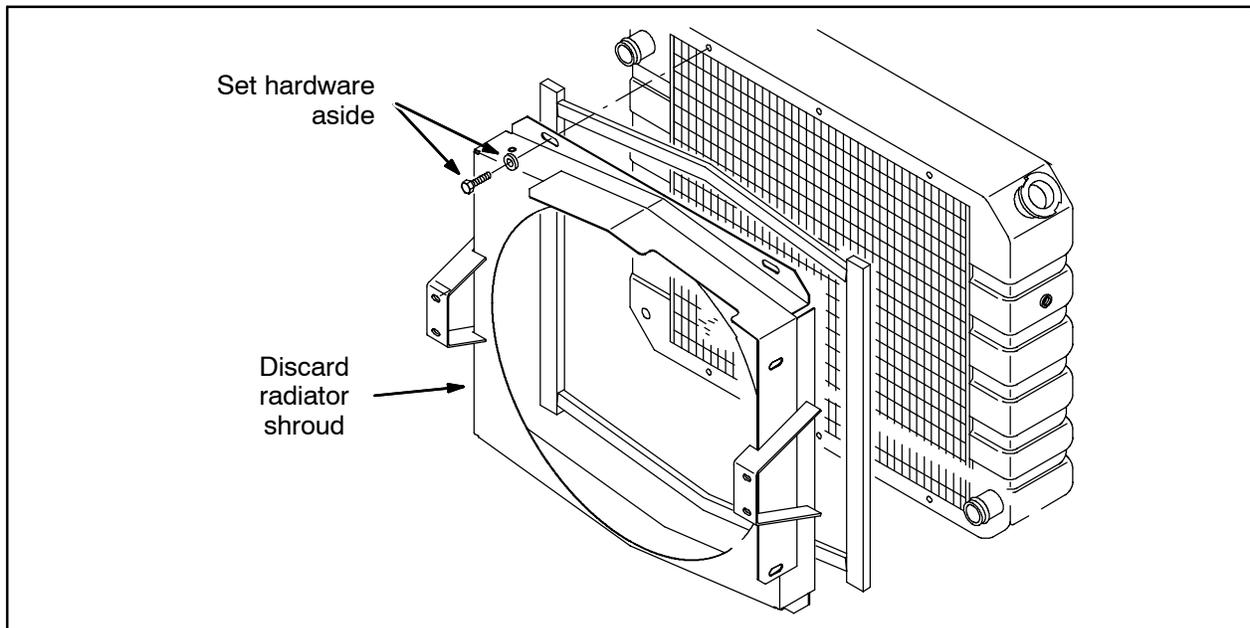

FIG. 4
Set all mounting hardware aside. Discard the radiator shroud. Refer to Fig. 4.
9. Install the radiator shroud (1) onto the radiator. Refer to Fig. 4.